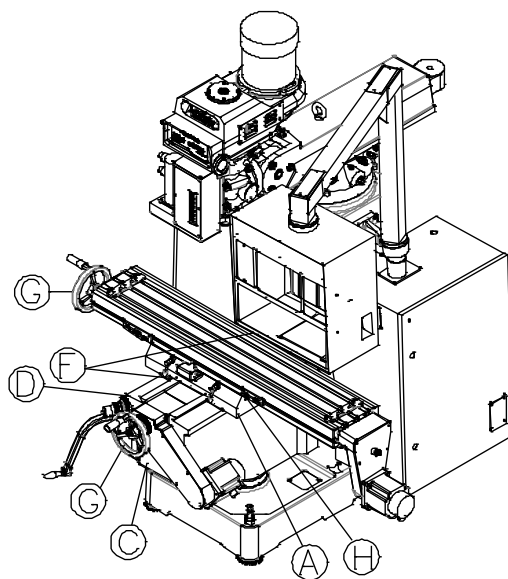

Fig. 7-6
7.6.2 The Saddle Gib Adjustment (Fig. 7-6)